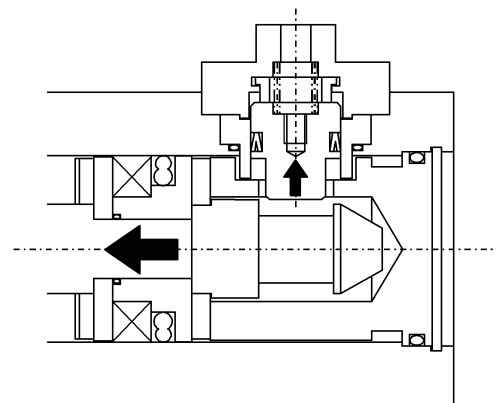

Fig.3
The stopper piston, when compressed air is supplied through the port, floats up against the force of the spring ④ and comes off the groove ⑤ of sleeve, generating an effect of unlocking the piston of cylinder. (Fig. 3)